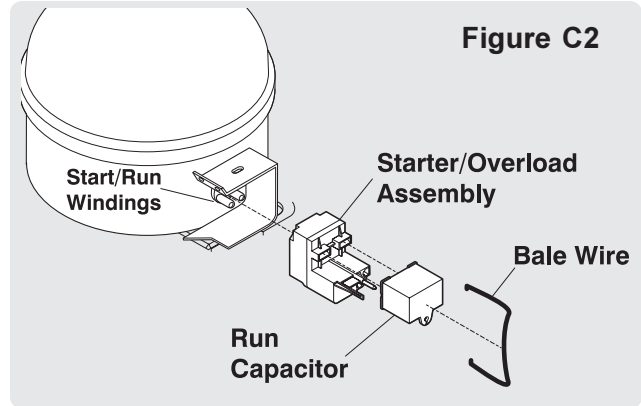

Figure C2
The solid state relay plugs directly onto the compressor start and run terminals. (See Figure C2) Relay terminals 1, 2, and 5 are connected within the relay, as are terminals 3 and 6.
2. Remove bale wire holding relay to compressor. (See Figure C2)
3. Remove relay assembly from compressor. (See Figure C2)
- If ohm readings are out of range, install new Starter/Overload Assembly. (See Figure C2)